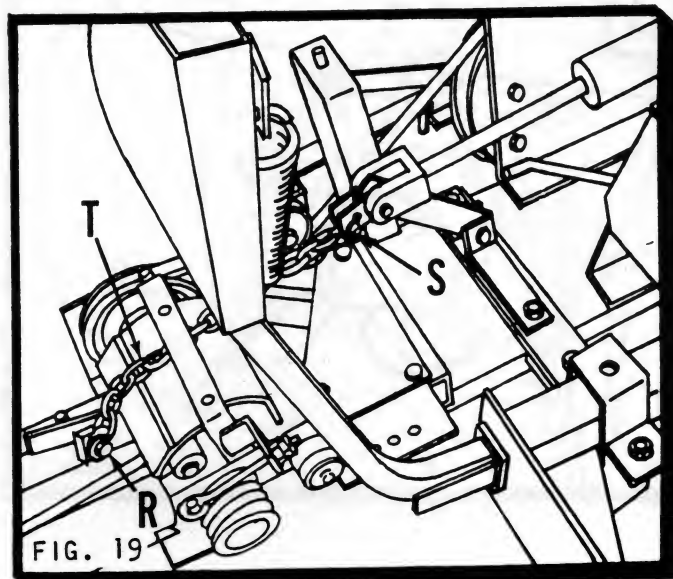

FIG. 19
1. Disassemble bolt, lock washer, flat washer, and spacer (R) from flywheel housing. (Fig. 19)
2. Slide free end of chain (T) between flywheel housing and flywheel housing cover.
3. Place enlarged end link of chain (T) onto spacer and re-assemble bolt, lock washer, flat washer and spacer (R) into flywheel housing. (Fig. 19)
Cutter bar can be adjusted to mow at any angle from approximately 45° below horizontal to 65° above horizontal. Adjustment can be made to any angle by removing hair cotter pin and eye bolt (S) and placing through desired link of lift chain. (Fig. 19)